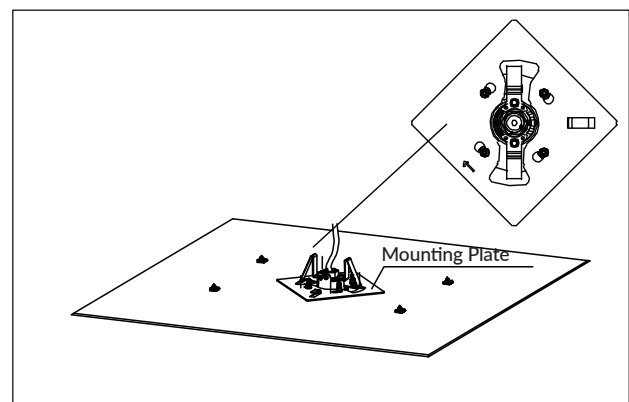

Figure 6
- Fixed the Luminaire Part on the canopy deck (Figure 6).